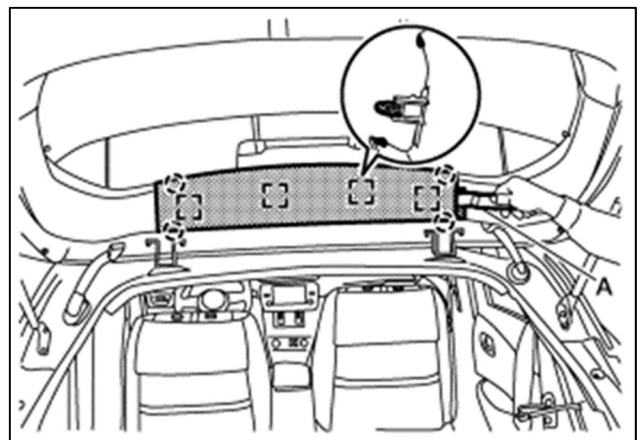

Figure 4
- b. Release the back door upper finisher fixing clips and pawls with a suitable tool, and then remove the back door upper finisher (Figure 4).